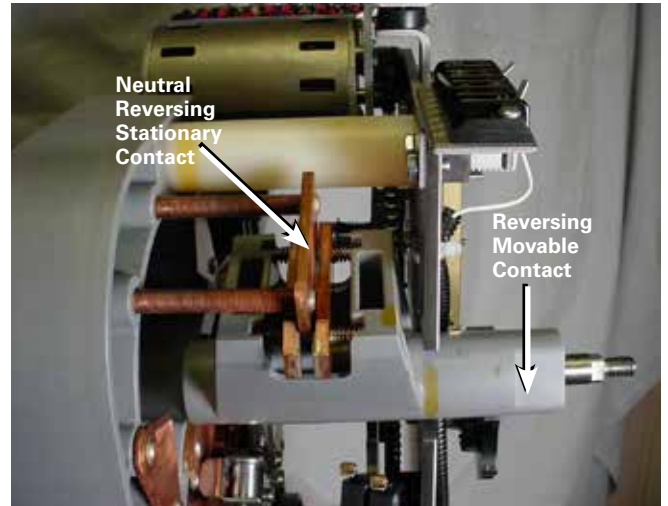

Figure 62. Removing movable contact assembly.
8. Pull the reversing movable contact assembly and the reversing neutral stationary contact forward toward the steel front panel as far as possible. See Figure 62.